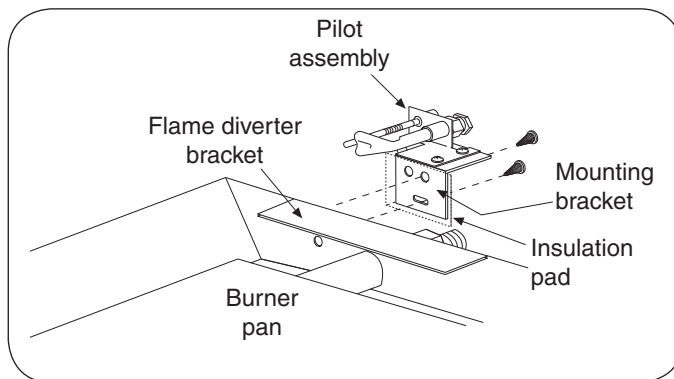

Fig. 4-3
- a. Attach the pilot assembly mounting bracket (Item 8) to the pilot assembly (Item 4) with #10 screws (Item 7) (Fig. 4-3 - Note: bracket, insulation pad and pilot assembly are shown attached).